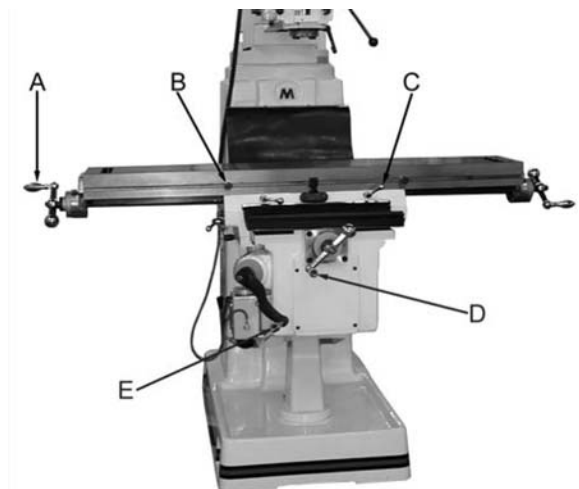

Figure 12
- A. **Longitudinal Movement** (A, Fig. 12) - handles located on opposite ends of the table; controls the X-axis.
- B. **Stops** (B, Fig. 12) - located on the front of the table; controls how far the table travels in either direction.
- C. **Table Locks** (C, Fig. 12) - located on the front of the saddle used for locking the table in position.
- D. **Cross Feed Movement** (D, Fig. 12) - located on the front of the knee; controls the Y-axis.
- E. **Knee Handle** (E, Fig. 12) - located on the corner of the knee; controls the Z-axis.